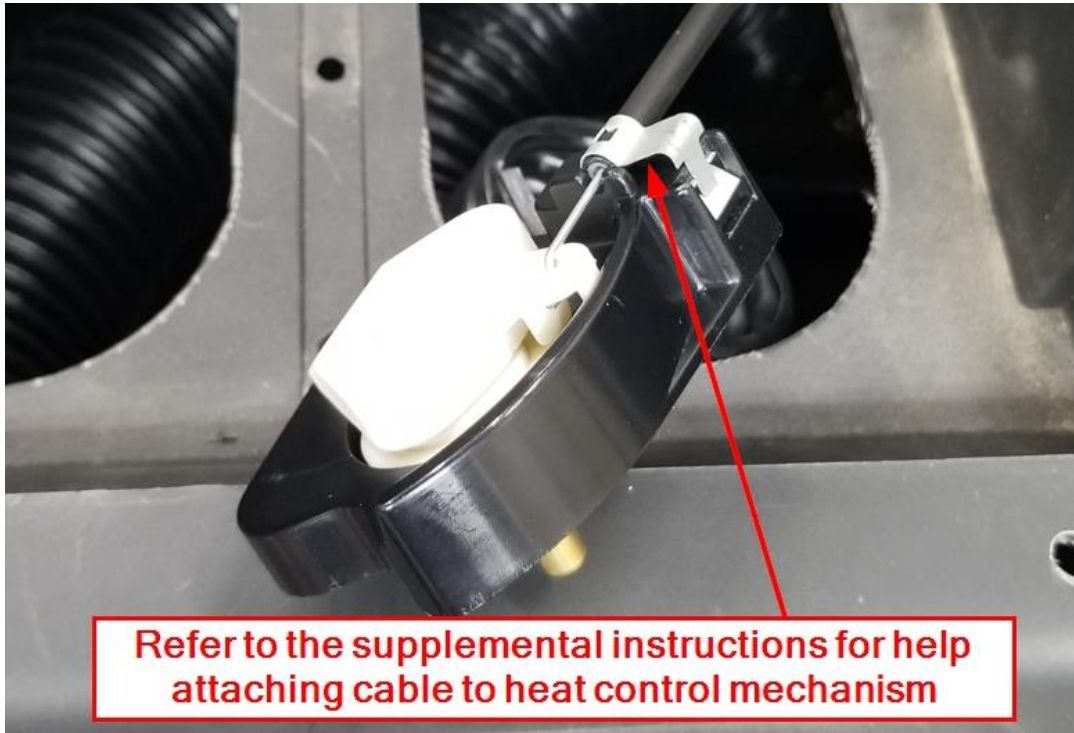

Figure 18
- k. Install the Heat Control Mechanism using the stamped metal clip to secure the cable to the Control Mechanism. Supplemental instructions are included with the Heat Control Mechanism packaging. See Figure 18.